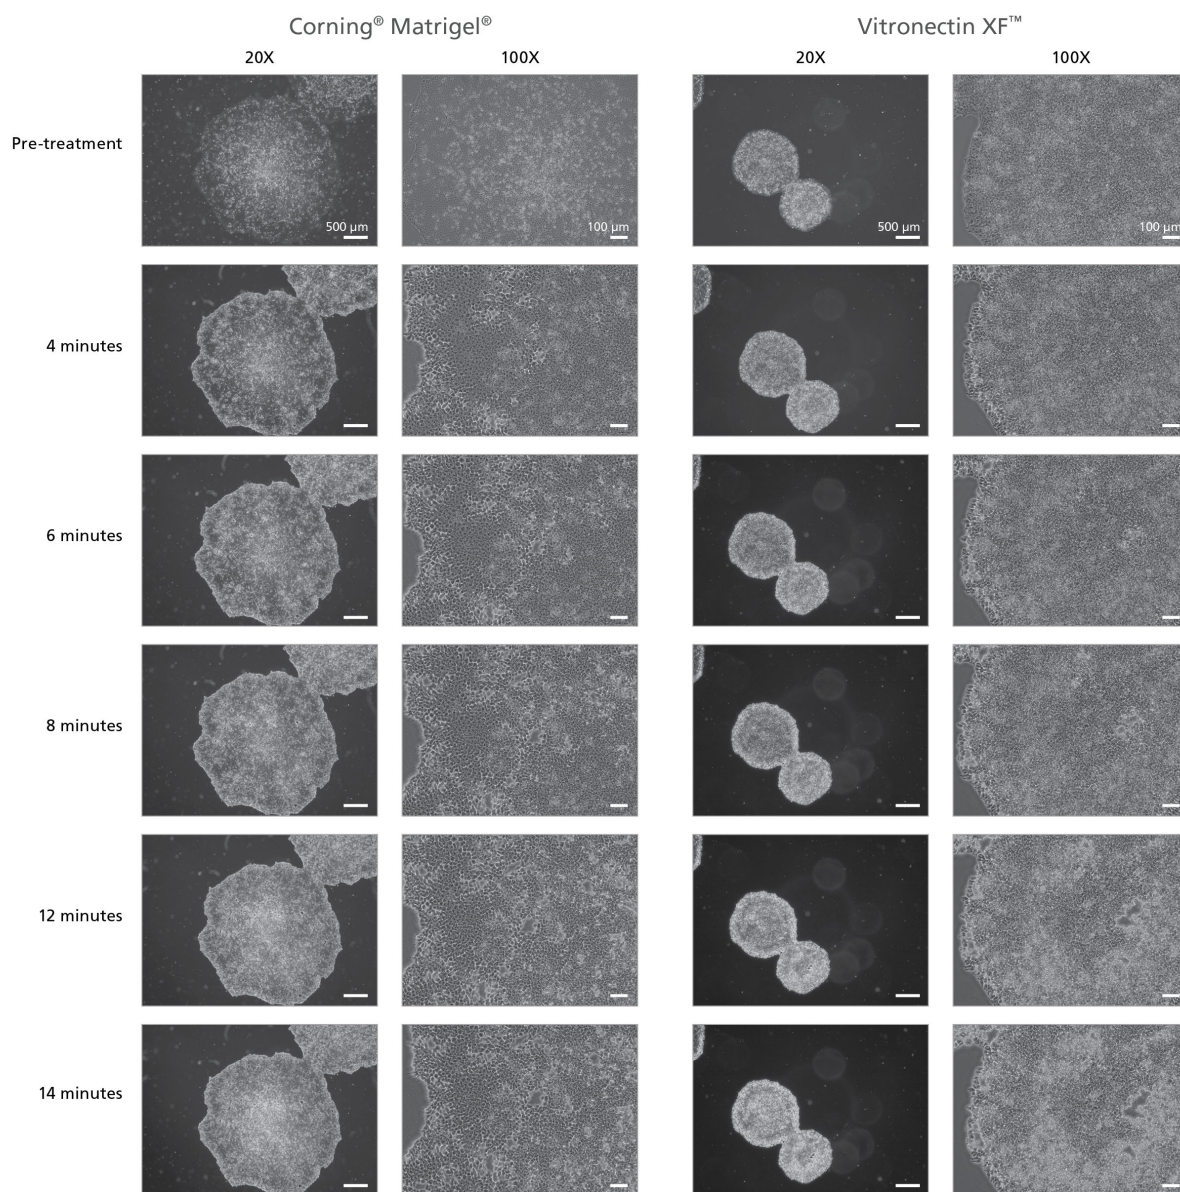

Figure 4. Effect of GCDR on Human ES Cells Cultured on Corning® Matrigel® or Vitronectin XF™ in TeSR™-AOF
6. Incubate at room temperature for 6 - 8 minutes. Refer to Figure 4 for a representative example of the desired appearance following incubation.